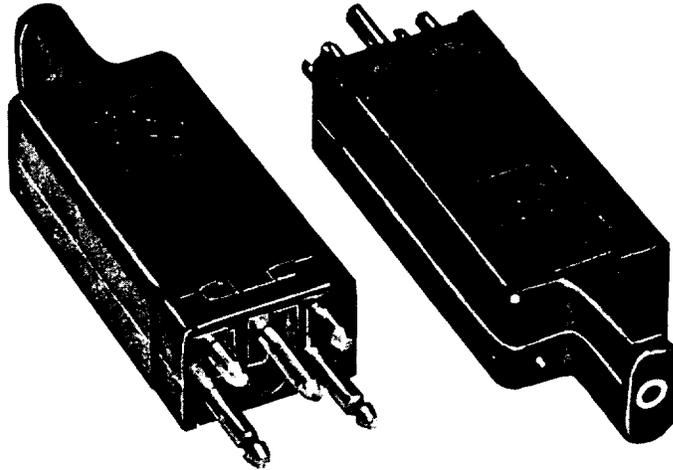

Figure 18. 4C-Type Protector Units
6.01 The 3C- and 4C-type protector units are used on the 307-type connector for *COSMIC* Mini DFs. The 3C-type protector units provide voltage protection, while 4C-type protector units provide both sneak current and voltage protection. The 4C12C protector units provide continuity only. Figure 18 shows 4C-type protector units, and Tables I and J list the various codes, housing characteristics, and circuit applications.